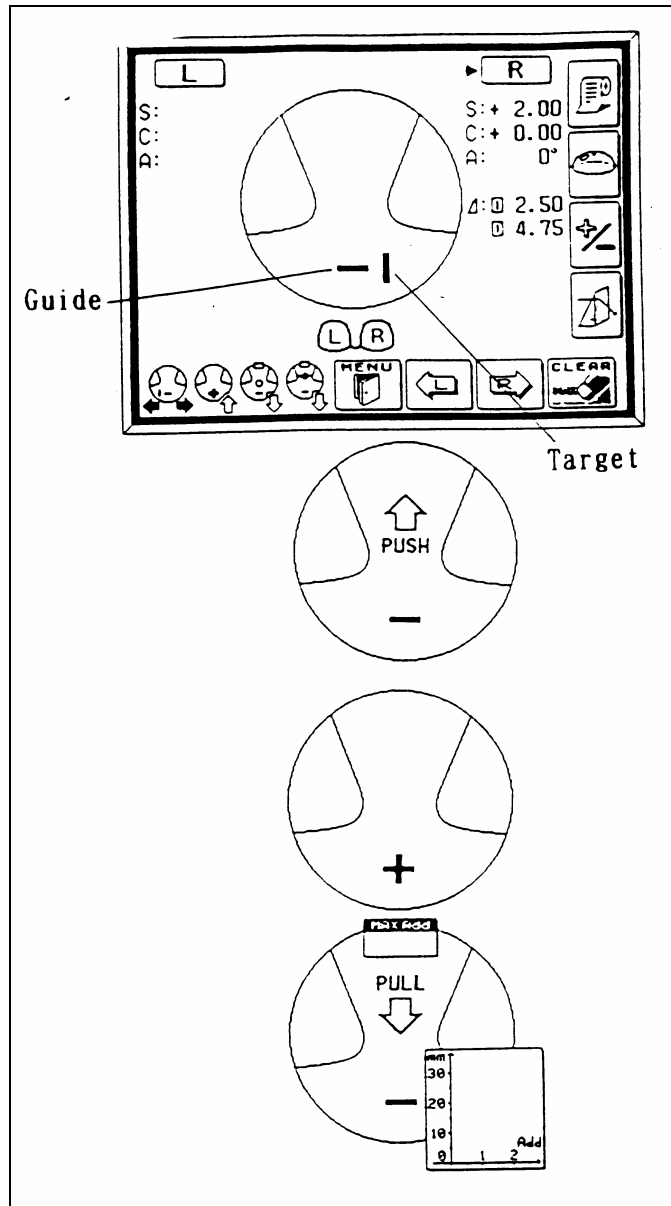

Figure 2-3. Measuring the lens
1. Press the PPL mode button (the second button on the right side of the display screen). Four lens graphics will appear on the bottom left side of the LED screen to indicate that you are now in the PPL mode (Figure 2-3).
4. Align the target (vertical line) by moving the lens sideways so that the target is brought to the middle of the guide (horizontal line) (Figure 2-3).
5. When the target is within an acceptable range, the “PUSH” sign with an up arrow will appear and the target line will disappear (Figure 2-3).
6. Push the lens forward slowly until the target changes to a plus sign (Figure 2-3).
7. When the distance value is stable, a small beep sounds and the “PULL” sign with a down arrow appears (see Figure 2-3).